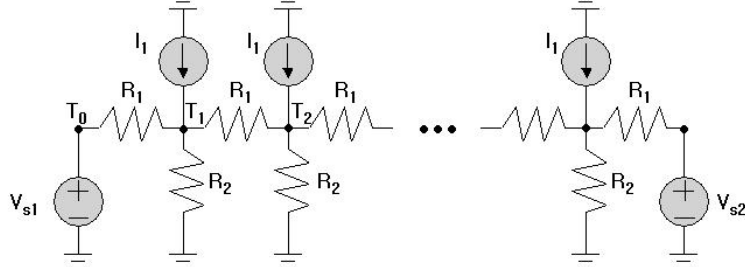
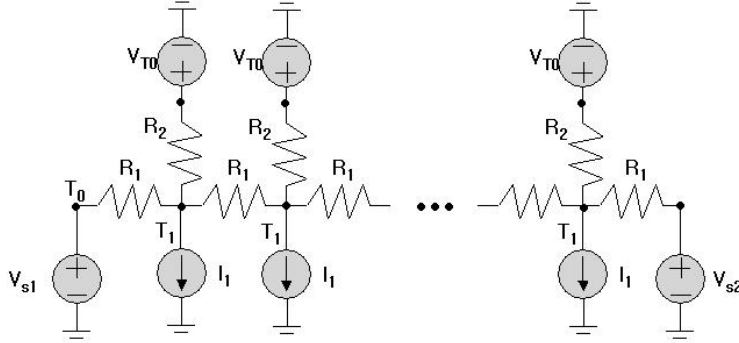
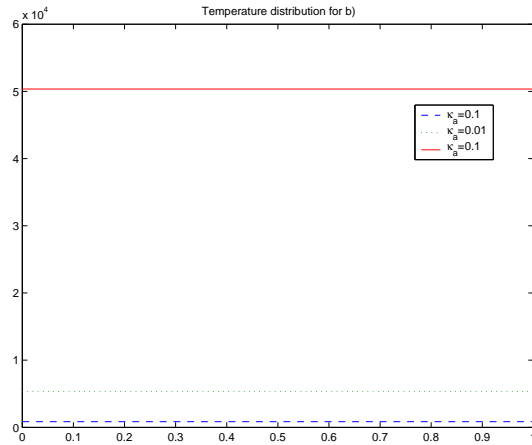

Figure 3: Circuit representation of the heat conducting bar problem.
Figure 4: Circuit representation of the heat conducting bar problem.
Figure 6: Temperature distribution on the bar for problem 1.3 b).
Considering temperatures as voltages in a circuit, the above equation, which models the conservation law, can be considered as a KCL relation at a node. Then the corresponding circuit looks like the one in Figs. 3, and the values for the elements are
which corresponds to Figs. 4 with
The temperature distribution is given in Figs. 6. Now, we try to justify quantitatively why we get constant. One simple way to think of it is that all the nodes are in the same condition: connected to the same current sources and the same resistors. Or, refer to Figs. 3. If we assume that T_2 is higher than T_1 , there should be some current flowing through R_1 . But, since there is no path from T_0 to ground and no additional current can flow through the current source, all the current should go through R_2 which increase T_1 . And this process continues until the T_1 is the same as T_2 .
c) As one can see from Figs. 6, the temperature increases as κ_a decreases. From Figs. 4, one can see that small κ_a corresponds to large R_2 , which means that the temperature is more sensitive to the change in the current flowing through R_2 .